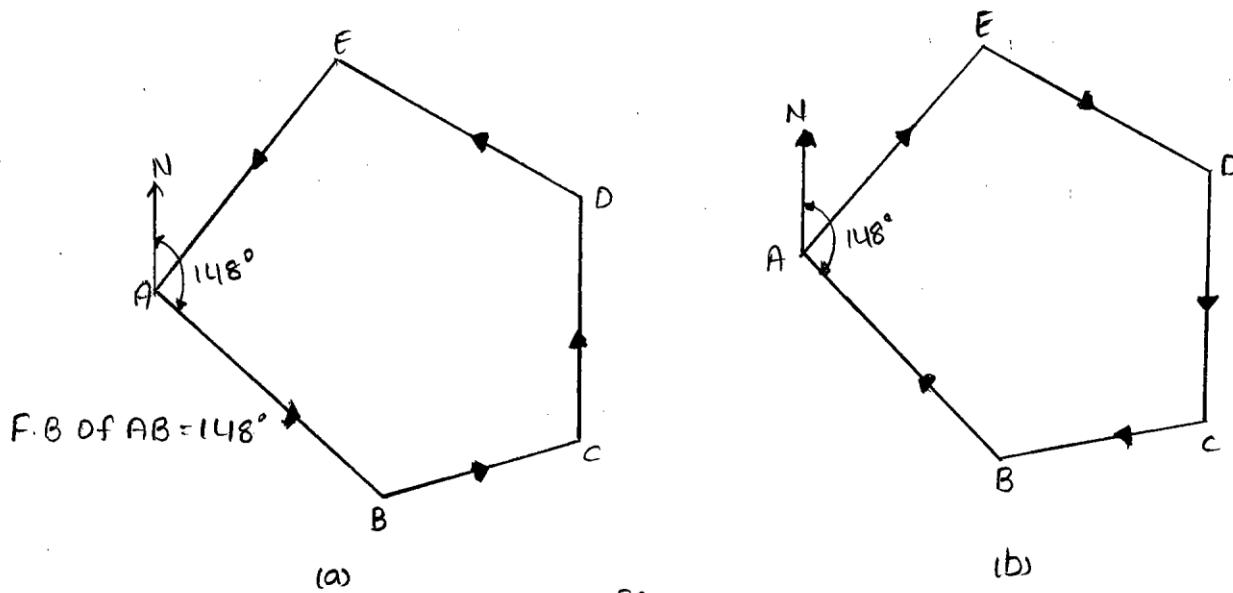

Fig. 1
* Figure 1(a) Shows a traverse ABCDE. As the direction of the progress of Survey is from A to B, the fore bearing of the line AB is 148° . Fig 1(b) shows a traverse AFEDCB. As the direction of the progress of survey is from B to A, the back bearing of the line BA is 148° . The reader should note the order in which the alphabets A and B appear. As is evident from Fig. 1(a) and Fig. 1(b), the back bearing of BA is equal to the fore bearing of AB. Likewise, it can be shown that the fore bearing of BA is equal to the back bearing of AB.